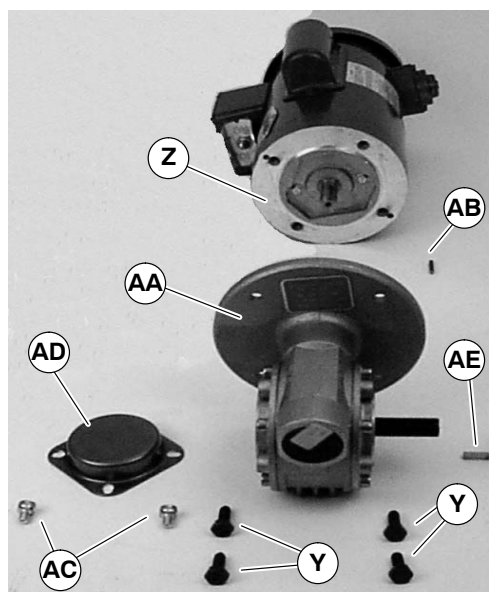

Figure 22
5. Remove four screws (Y of Figure 22). Detach motor (Z) from gear reducer (AA). Retain motor output shaft key (AB).
11. With key (AE of Figure 22) in keyway, slide motor (Z) and gear reducer (AA) together. Install screws (Y) and tighten.